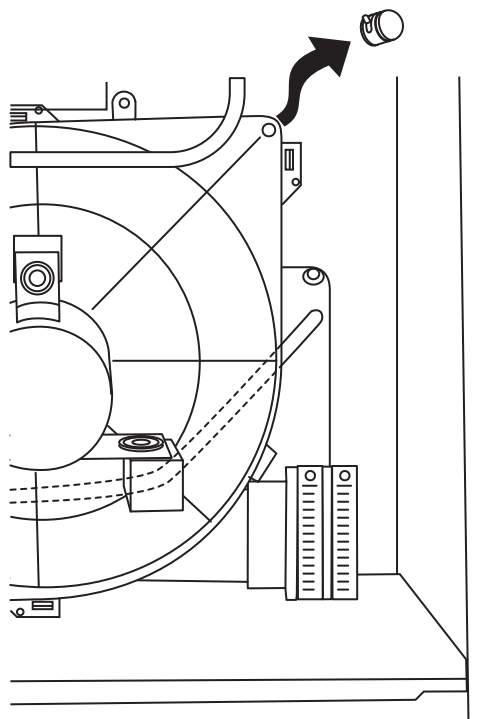

Fig. 38 - Drain Connection Cap
4. Remove upper inducer housing drain connection cap. See Fig. 38.